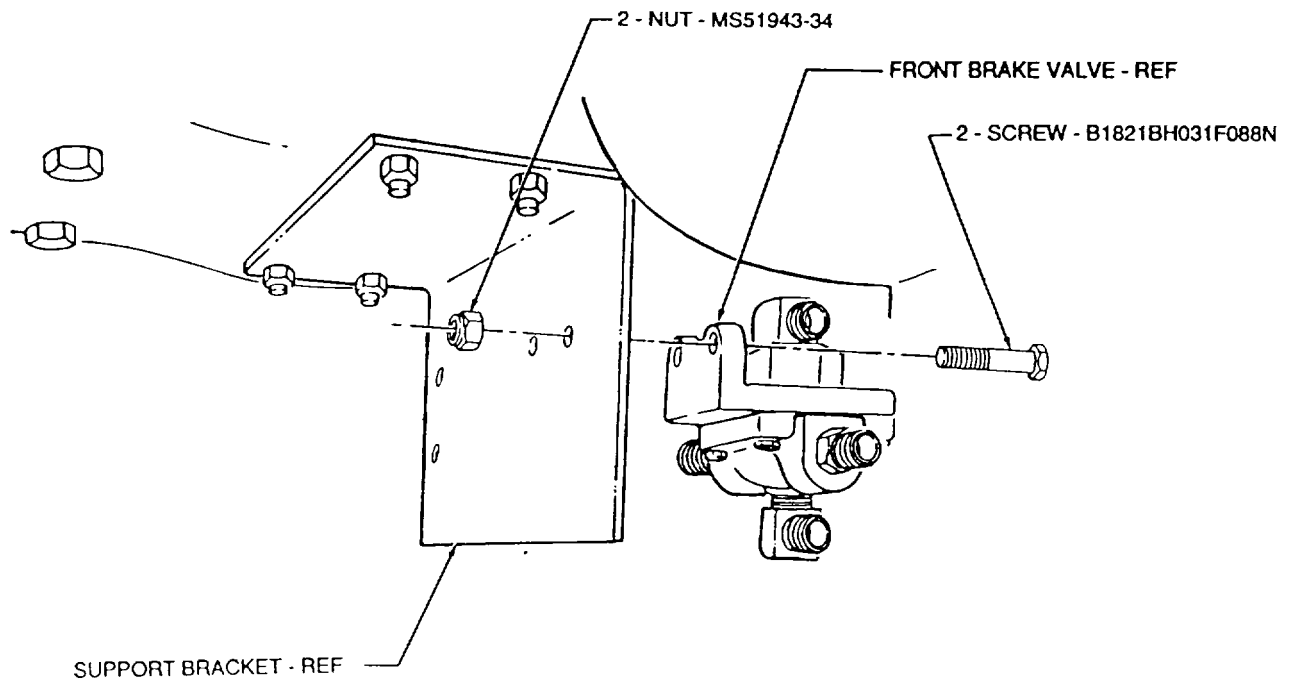

FIGURE 3
(4) Secure front brake valve to support bracket with two B1821BH031F088N screws and MS51943-34 nuts as shown in figure 3.